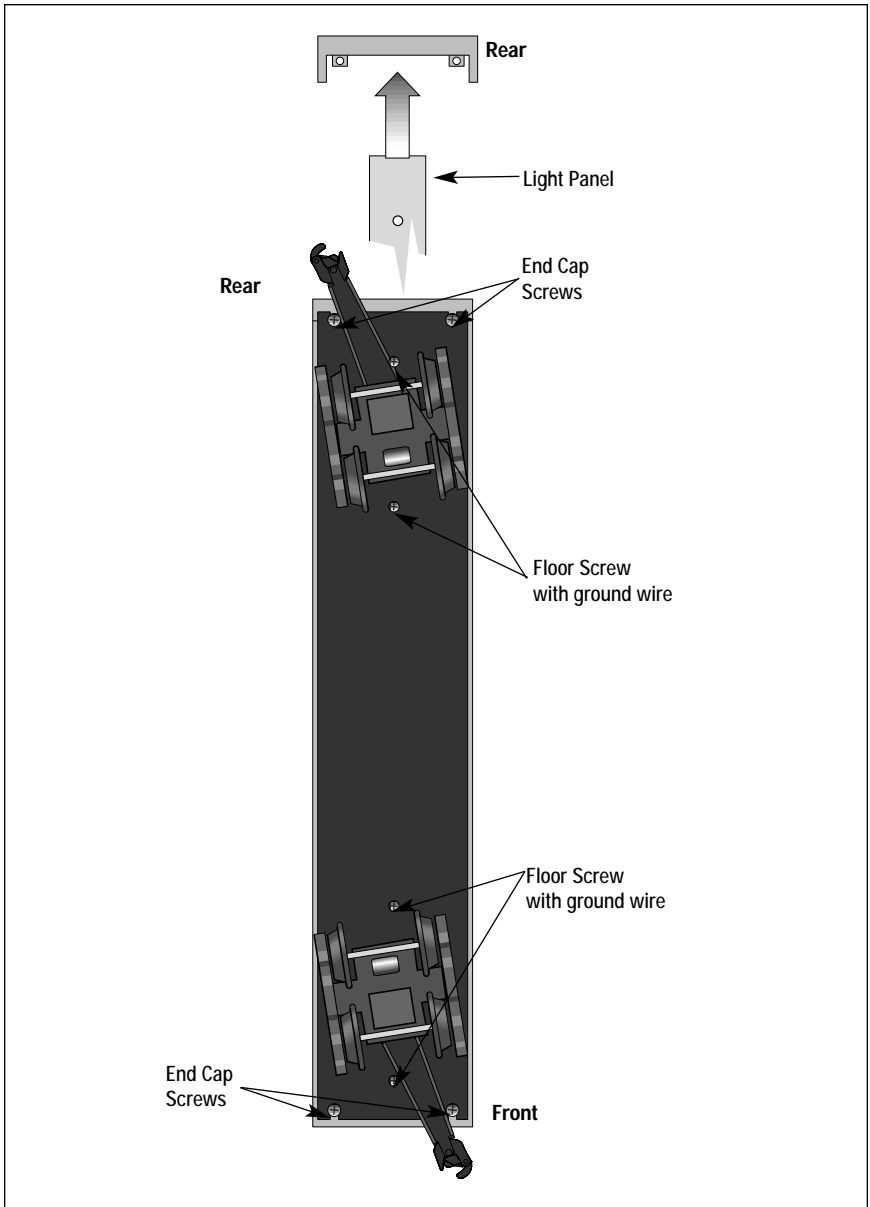

Figure 8. Removing the end caps and light panel
1. Loosen the four end cap screws on the bottom of the frame. Refer to Figure 8 for the location of the screws and end caps.